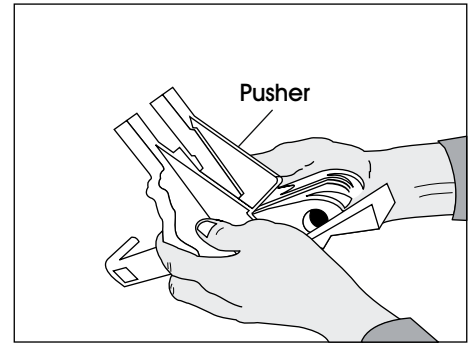

Figure 23
3. Pull the pusher back until it stops on the rod, then rotate the pusher to position. (See Figure 23)